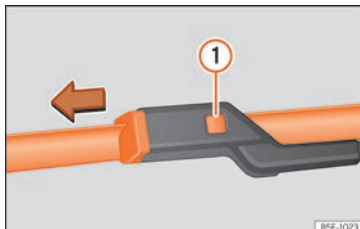

Fig. 83 Changing the windscreen wiper blade.
- Press the securing tab down ① » **Fig. 83.**